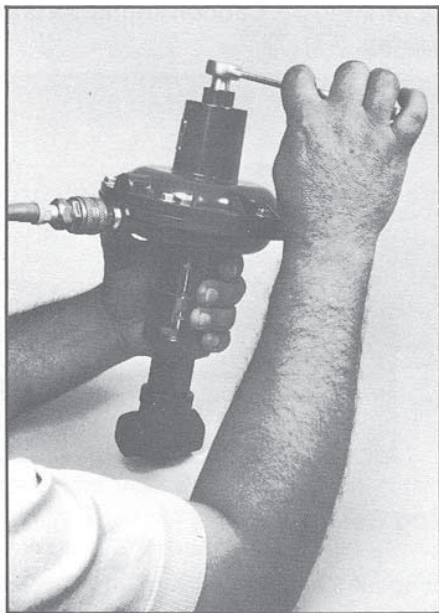

FIG. 8
1. With valve completely assembled and with a manually regulated supply (3-15 PSIG) to the topworks, adjust with spring adjuster until valve stroke is corresponding to the normal 3-15 PSIG instrument signal. To set this precisely, pipe 90 PSIG air to the upstream port and with rubber tubing piped from downstream port, bubble check shutoff point. (Fig. 8)